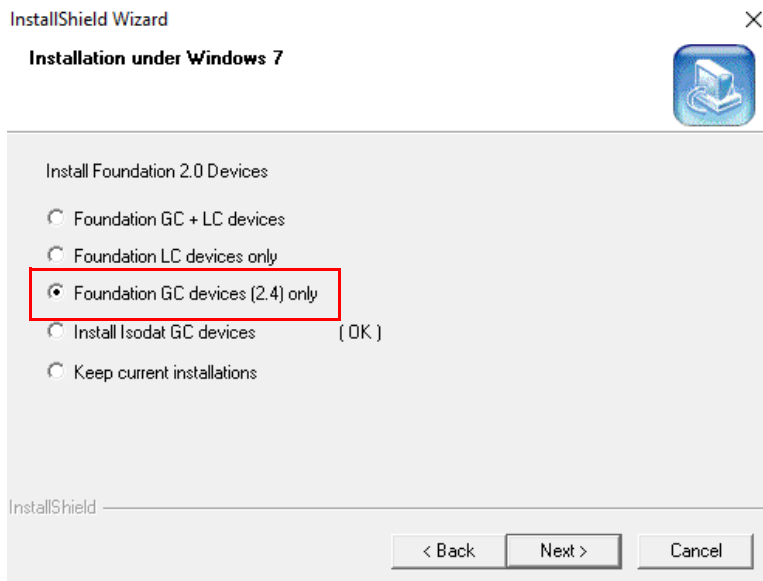

Figure 4-19. Installation Foundation 2.0 Devices 2.4
7. Select **Foundation GC devices (2.4) only**, see Figure 4-19.